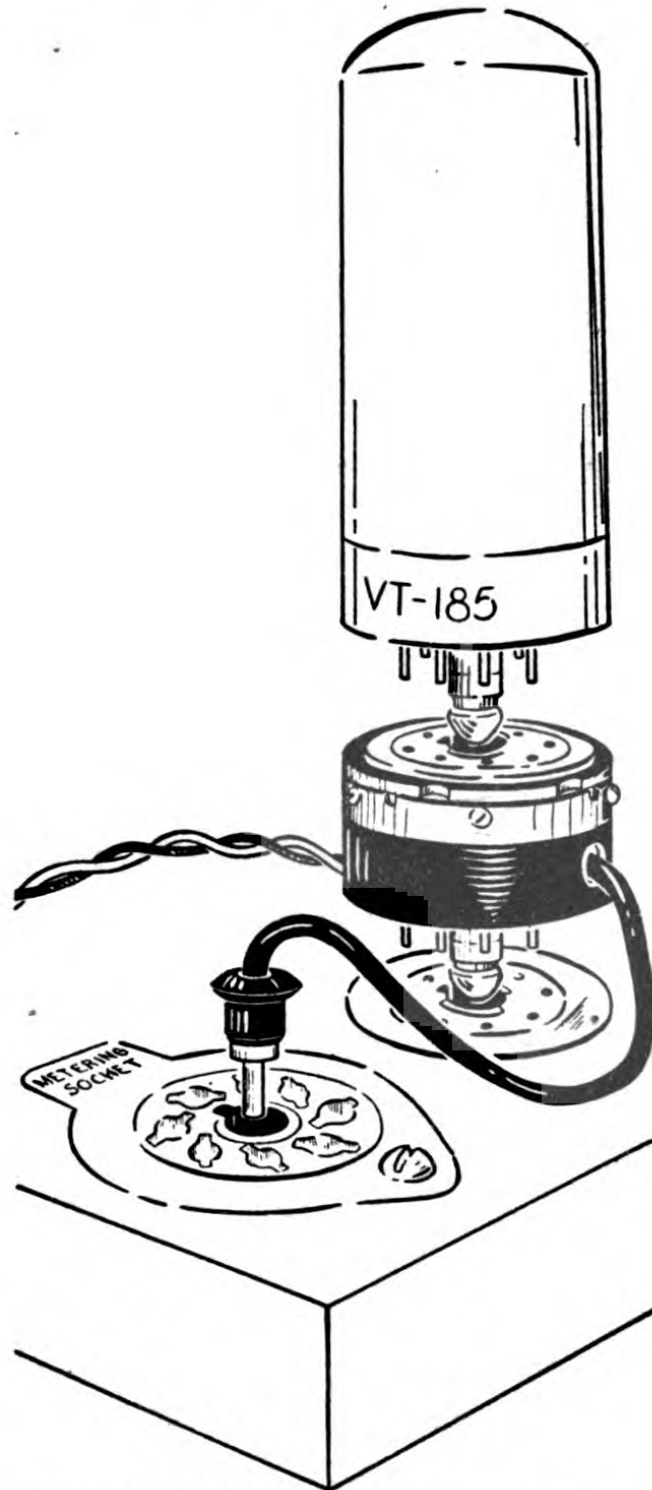

FIG. 6—ADAPTERS M-394, M-399, Adapter Plug—METHOD OF INSERTING IN RECEIVER POWER-AMPLIFIER-TUBE SOCKET
(4) Set switches SW₁₀ and SW₁₁ to OFF, and turn the panel meter switch to CHECK.
(5) Plug in Handset TS-13-(*), or a headset and microphone.
(6) Put the set in operation by turning the VOLUME control full ON (to the right).
(7) Throw the adapter switch to ALIGN, and note the panel meter reading. Turn the VOLUME control all the way back (to the left) from full ON, and note the change in the meter reading. If the change is more than one division, replace Tube VT-185 that is in the adapter socket, Fig. 6, with another one [Receiver-Transmitter BC-620-(*) has four VT-185's] until one is found that is satisfactory. (This checks the VT-185 for grid current, and it is essential for the alignment procedure that a tube with little or no grid current be used in the adapter socket. Normal tubes will satisfy this condition, but one that produces a change of several divisions in the meter reading has abnormal grid current, and must be replaced.) The VT-185 that is selected should produce a meter reading between 1.5 and 2.5.
(8) Turn the VOLUME control full ON (to the right) again. Note the meter reading with the adapter metering plug held away from the set. Then ground the metering plug to the chassis, and if the meter reading does not increase at least five divisions, Tube VT-185 and/or Battery BA-40 may be weak. Replace either or both as necessary.